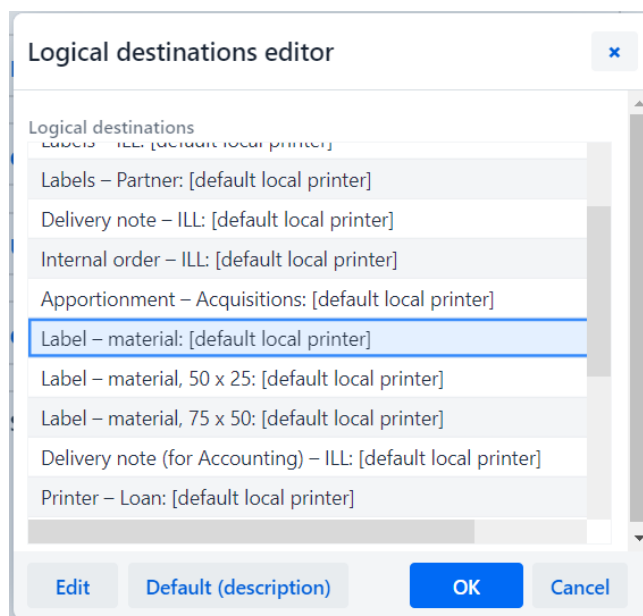

Figure 11: Logical destination editor
- Figure 11: Logical destination editor6
The **Logical destinations editor** window will open where you select the option *Label – material: [default local printer]* and click **Edit** (see Figure 11).